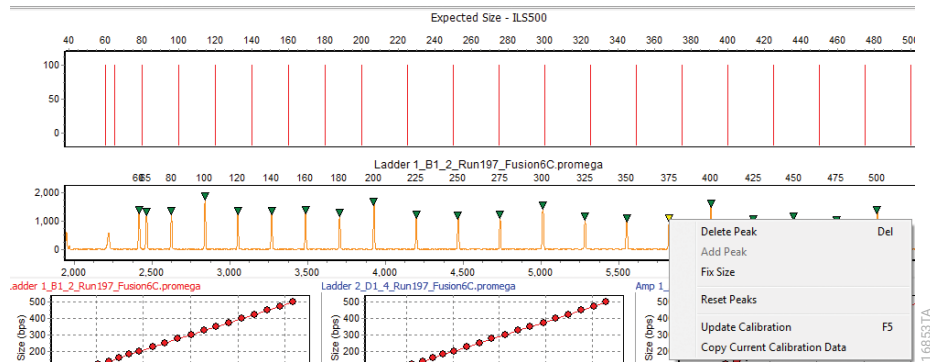

Figure 146. Editing size calls in the Sample Size Standard Chart of the 'Calibration Charts' window.
2. To select a peak within the size standard, click on the peak in the Sample Size Standard Chart. When a peak is selected, the triangle at the apex of the peak is yellow. Right-clicking on a specific peak in the electropherogram provides several editing options (Figure 146).
- To delete an enabled size standard peak, right-click on the peak and select **Delete Peak** (Figure 146). The peak remains in the electropherogram; however, the green triangle peak indicator is removed and the peak is not used in the size match score calculation.
When all desired edits are made, right-click anywhere in the Sample Size Standard Chart and select **Update Calibration** (Figure 146). The software will recalculate the size match score for the sample and update the calibration plots. If you navigate away from an edited size standard before updating the calibration, a 'Warning' window will open asking if the sample size standard calibration should be updated. Select **Yes** to update the calibration. Select **No** to undo all edits to the sample size standard. When you close the 'Calibration Charts' window, the Size Match Score indicators next to the file names in the Sample File Tree in the 'Main Analysis' window are updated.
You can copy the camera frame and base pair size of the calibration data for analysis in a spreadsheet or word processing program. To copy data from the selected Sample Size Standard Chart, right-click anywhere in the Sample Size Standard Chart and select **Copy Current Calibration Data** (Figure 146). The frame position and base pair size for each enabled peak will be copied.